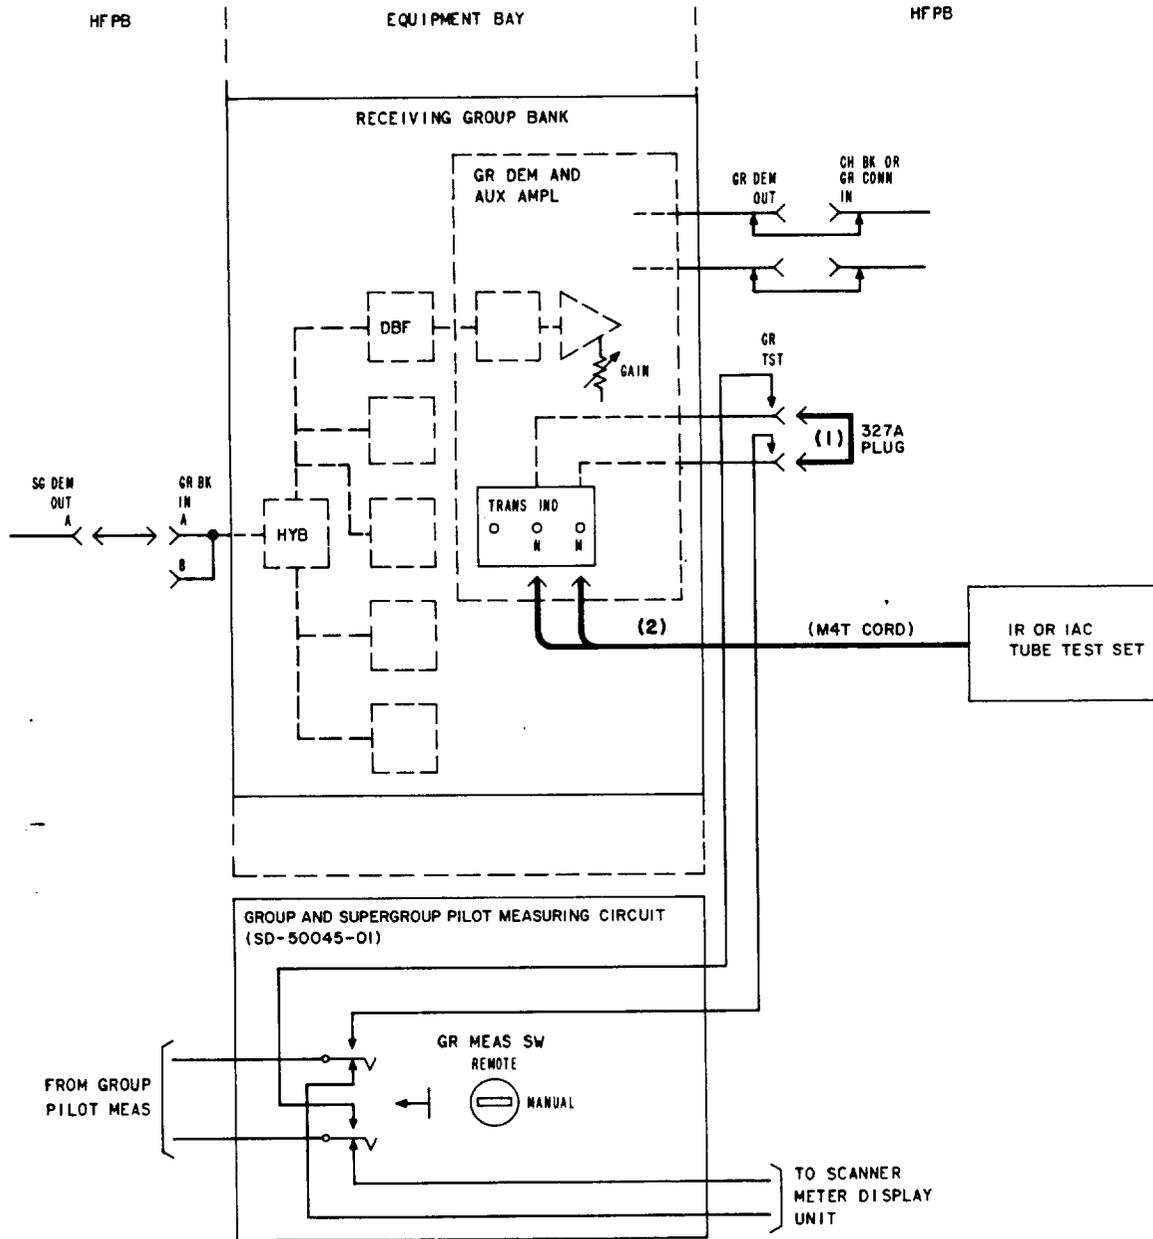

Fig. 5—Test Connections—Gain Test—Alternate Method
(b) Insert a 327A plug into the GR TST jack associated with the group circuit being tested [patch (1), Fig.5].
8	At the equipment location, use an M4T cord to connect the tube test set to the TRANS IND jack on the auxiliary amplifier associated with the circuit being tested [patch (2), Fig. 5].
12 Disconnect the tube test set [patch (2), Fig. 5].
(b) Remove the 327A plug from the GR TST jack [patch (1), Fig. 5].